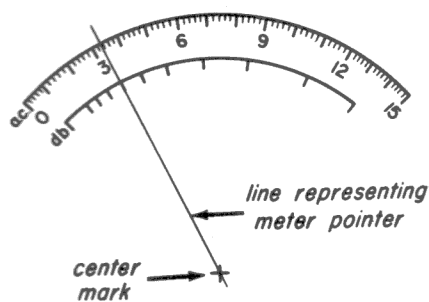

Fig. 34-3
Information. Figure 34-3 shows the 15 volts a-c scale of your meter. A corresponding decibel scale has been drawn below it but the decibel numbers are omitted from the scale. In this experiment, you will fill in the numbers on the blank decibel scale.
Step 1. The center mark in Fig. 34-3 represents the point at which the meter pointer pivots. Lay a straight-edge ruler on the figure so that it intersects the center mark and one of the unnumbered markings on the db scale. The line made by the edge of the ruler represents the meter pointer. Look to see what value of voltage the meter will be indicating on the 15 VAC scale when the pointer is at the decibel marking that your ruler now intersects.
Step 3. Write this number of decibels below the unnumbered mark in Fig. 34-3 that you have intersected.
Step 4. Repeat Steps 1, 2, and 3 for every unnumbered mark on the db scale in Fig. 34-3.